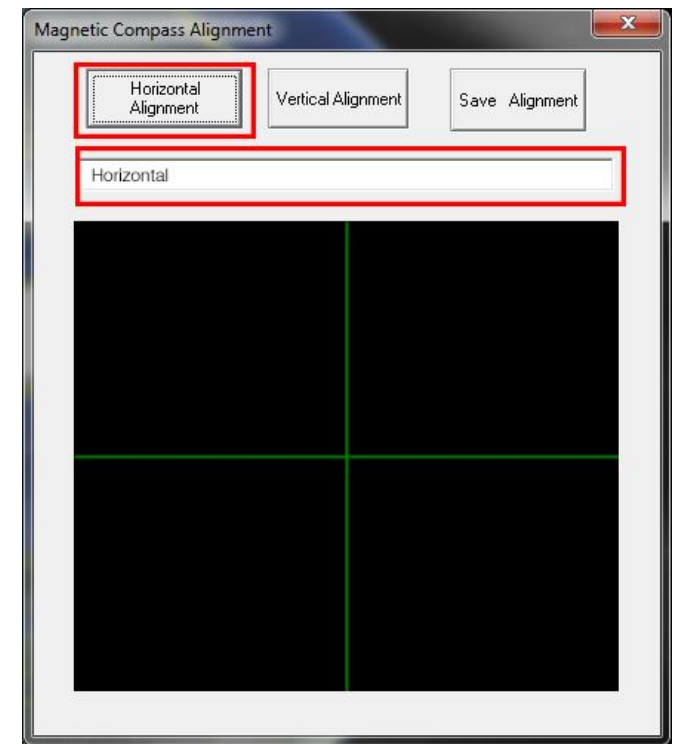

Figure25 Horizontal Alignment
3. Click “Horizontal Alignment” for horizontal calibration, as shown in Figure25.